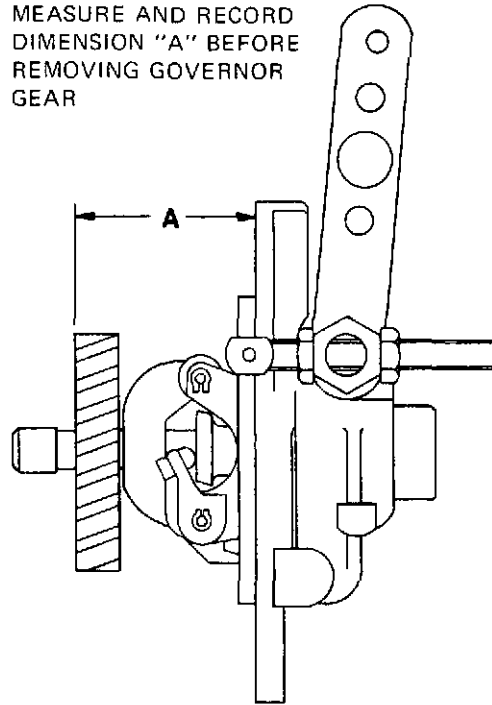

Figure 5-11. Governor Gear Installation Dimension
4. Carefully pull out the assembled governor (3), gear (6), and thrust washer (5) from the gear housing, and remove the gasket (4). Pull off the thrust washer.
5. If the governor gear is worn or damaged and requires replacement, measure the distance from the face of the gear to the mating surface of the governor housing (dimension A, figure 5-11). Record this dimension for use when reinstalling the governor gear.
2. If a new gear is being installed, press it onto the governor shaft to the dimension measured at removal. See figure 5-11.